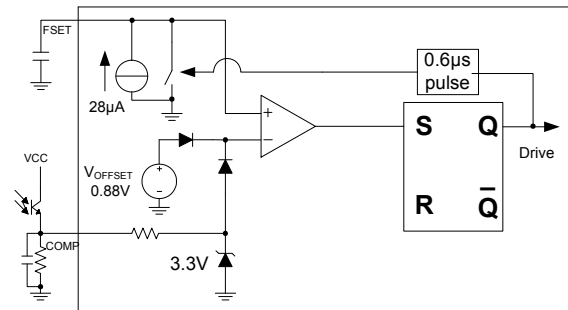

Figure 11: Schematic for Voltage-Controlled Oscillation
The capacitor C_{FSET} sets the maximum frequency as shown in equation (9). This capacitor is charged by a constant current source shortly after the primary side switch turns on (about 0.6µs delay), and its voltage is compared with the COMP voltage from feedback loop (see Figure 11).